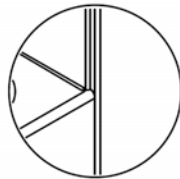

fig 5
8. Caulk perimeter joints and all seams using silicone sealant. Clean up excess caulk with denatured alcohol. See figure 5.
9. Apply a small bead of clear silicone sealant to the top edge of the cabinet or frame. See figure 5.